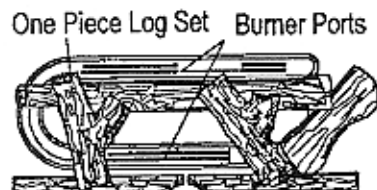

Figure 10 - Installing One-Piece Log Set (Top View)
**IMPORTANT:** Make sure log does not cover any burner ports (see Figure 10).